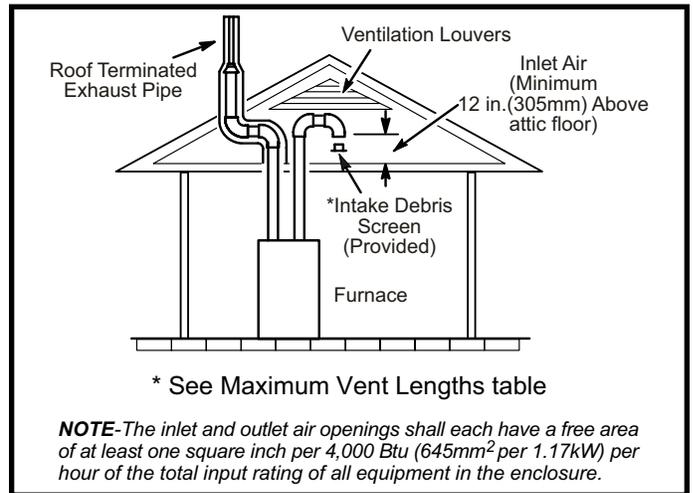
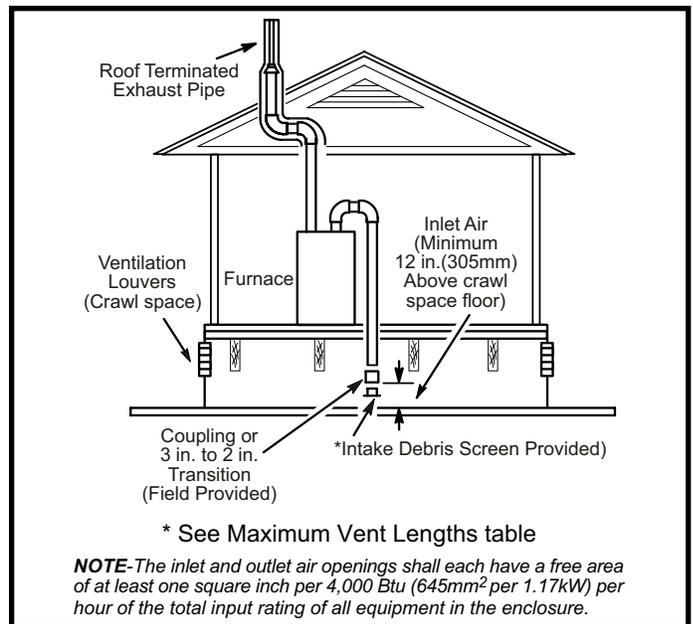

Figure 25. Equipment in Confined Space (Inlet Air from Ventilated Attic and Outlet Air to Outside)
Figure 26. Equipment in Confined Space (Inlet Air from Ventilated Crawlspace and Outlet Air to Outside)
2. If intake air is drawn from a ventilated attic (Figure 25) or ventilated crawlspace (Figure 26) the exhaust vent length must not exceed those listed in Table 8. If 3" diameter pipe is used, reduce to 2" diameter pipe at the termination point to accommodate the debris screen.